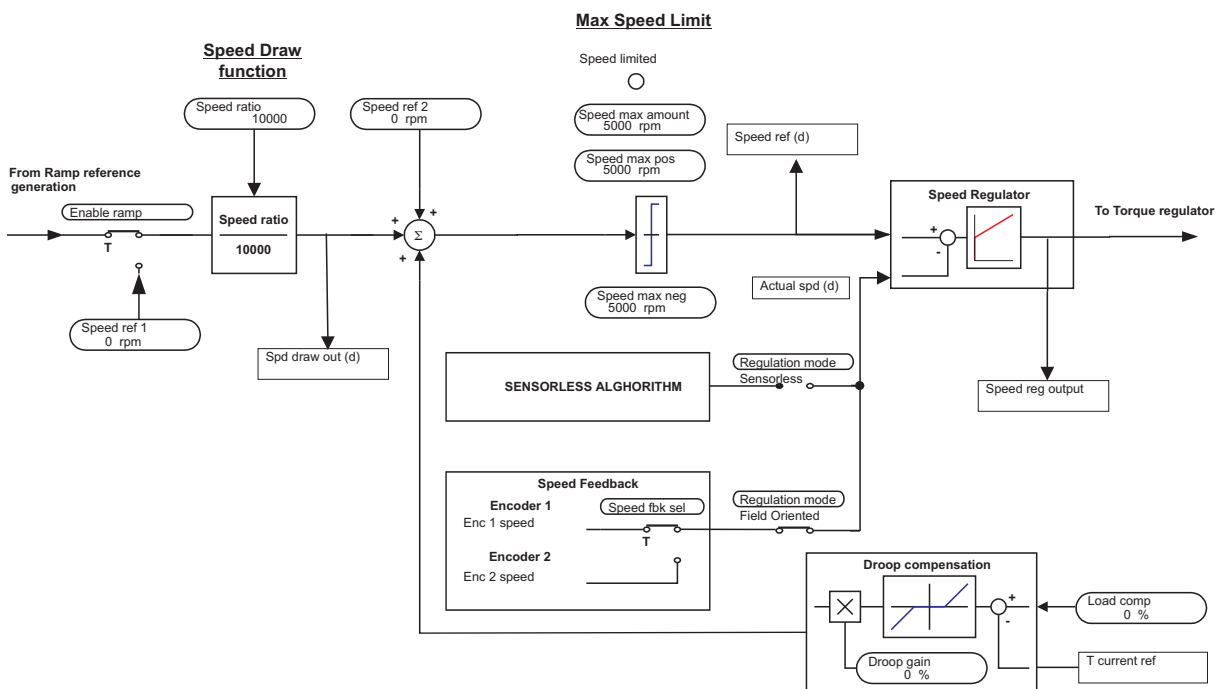

Figure 2.5.2.1 Speed references
- Speed max amount** It defines the maximum speed for both directions. This parameter affects the input of the speed regulator and therefore it takes into account both the reference values that come from the ramp as well as the direction of rotation (see figure 2.5.2.1). If the **Speed max amount** parameter is changed, the **Speed max pos** and **Speed max neg** parameters are set to the same value. If either of these values is subsequently changed, the last change is valid. The value to be entered is based on the factor function.